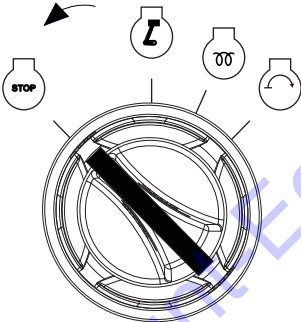

Figure 3-22. Stop Engine
4. See Figure 3-22. Turn ignition switch to STOP position.